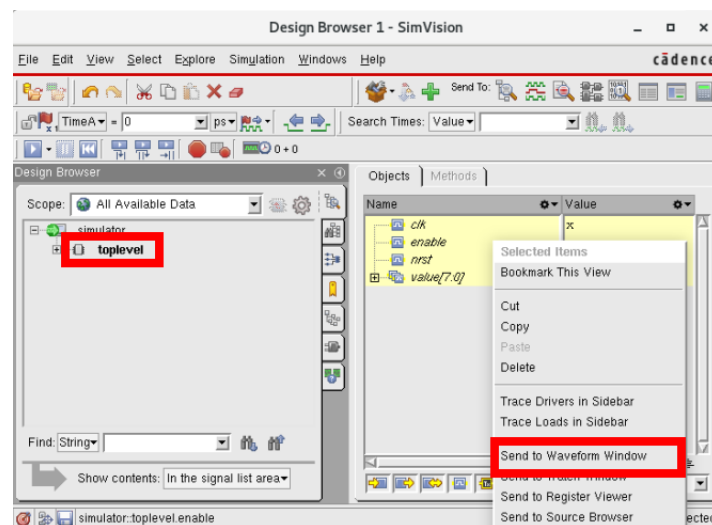
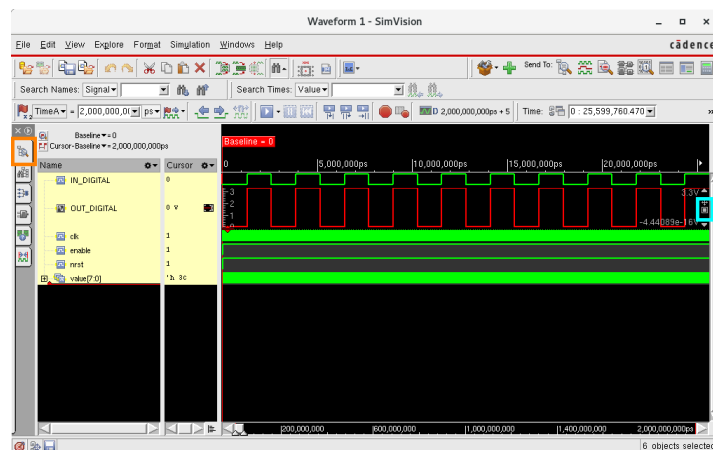
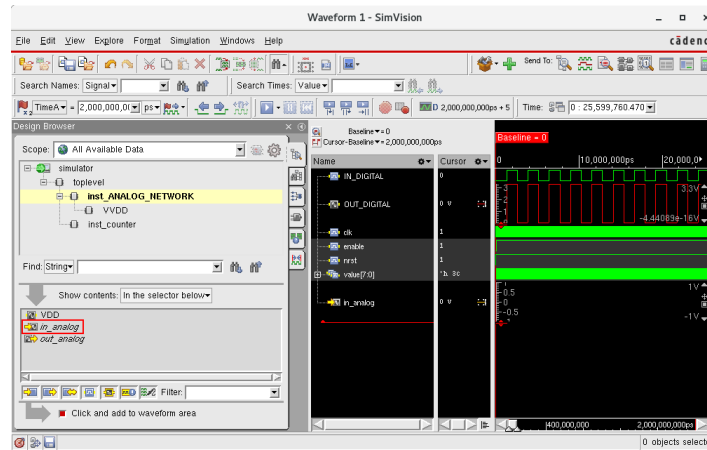

Figure 28: Design browser
Figure 37: Waveform window mixed signal simulation
Figure 38: Browse through the different waveforms
8. The design browser window shown in Figure 28 will open. Click on *toplevel* and then select all the signals at the right (using the shift button). Right click on the selected signals and choose "Send to Waveform Window"
- Send the signals of the *toplevel* module to the waveform window and start the simulator just like you did in Tutorial 4 (Figure 28 and 29). Zoom in until you properly see the block wave of *IN_DIGITAL*. It is possible that the block wave of *OUT_DIGITAL* is barely visible now. You can solve this by clicking on the square at the right indicated by the blue box in Figure 37.
10. The *IN_DIGITAL* signal in Figure 37 is a digital signal. It can only have the logical values used by Verilog ('0', '1', 'z', 'x',...) while the *OUT_DIGITAL* signal is an analog signal that continuously varies between 0 and 3.3 V (even though it looks quite digital in this example). To plot the analog variant of *IN_DIGITAL*, click on the tab indicated by the orange box at the left shown in Figure 37. Now you can browse through the different simulation results. Click on the *in_analog* signal as shown in Figure 38. This is the analog representation of *IN_DIGITAL* (remember that we connected these two signals in the *analog_network.pb* - file?).